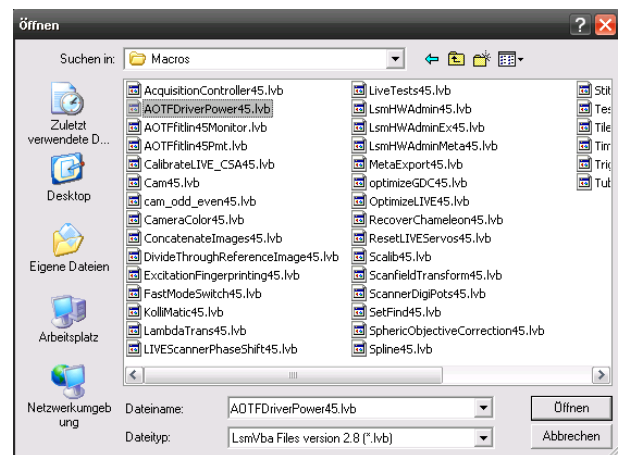

Fig. 5 Open window
- The **Open** window will be opened (see Fig. 5).